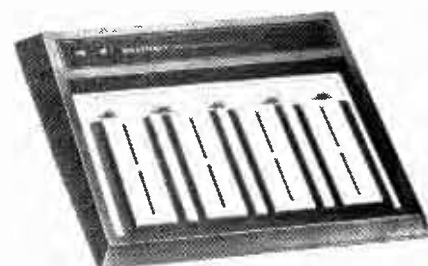

Fig 15
**Laboratory Breadboard Type ET3300** from Heathkit, see Fig. 15 is available in kit form or ready built. The console comprises four 0.1in matrix strips and three bus strips which will accept up to 24 14-pin i.c.s. The internal d.c. power supplies offer +5V at 1.5A,  $\pm 12$ V at 100mA, and are short circuit protected. Overall size of the unit is 89 × 304 × 304mm. □